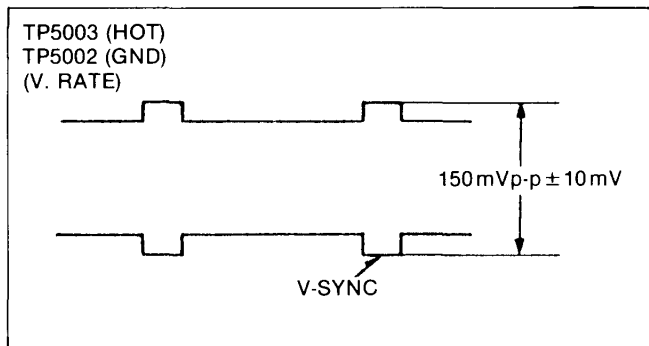

Figure E17
6. Next, adjust VR5001 so that the luminance signal level is 150 +/- 10mVp-p as shown in Figure E17.